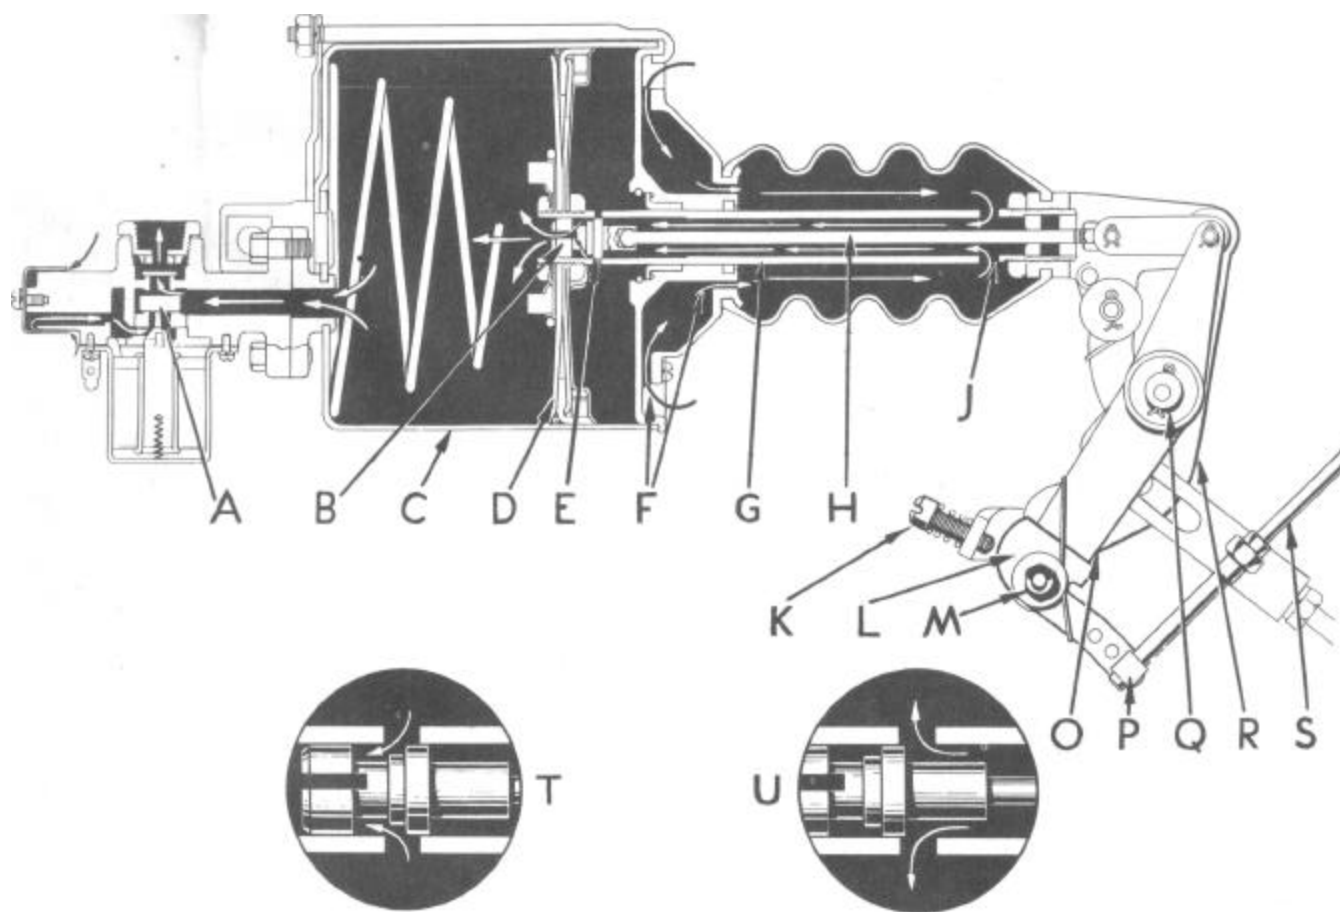

Figure 10--Automatic Clutch Cylinder and Valves
When the ignition switch is turned on the circuit thru the automatic clutch solenoid is completed and the solenoid valve (A), Figure 10, is opened. This establishes direct passages between the intake manifold and the forward end of the power cylinder (C).
This follow up action takes place during the entire engaging stroke, and piston rod movement stops as soon as the valve (B) comes to a top position over the ports (E). In this position the ports are sealed so that air neither can enter or escape from the rearward side of the piston, see diagram T and U, Figure 10.